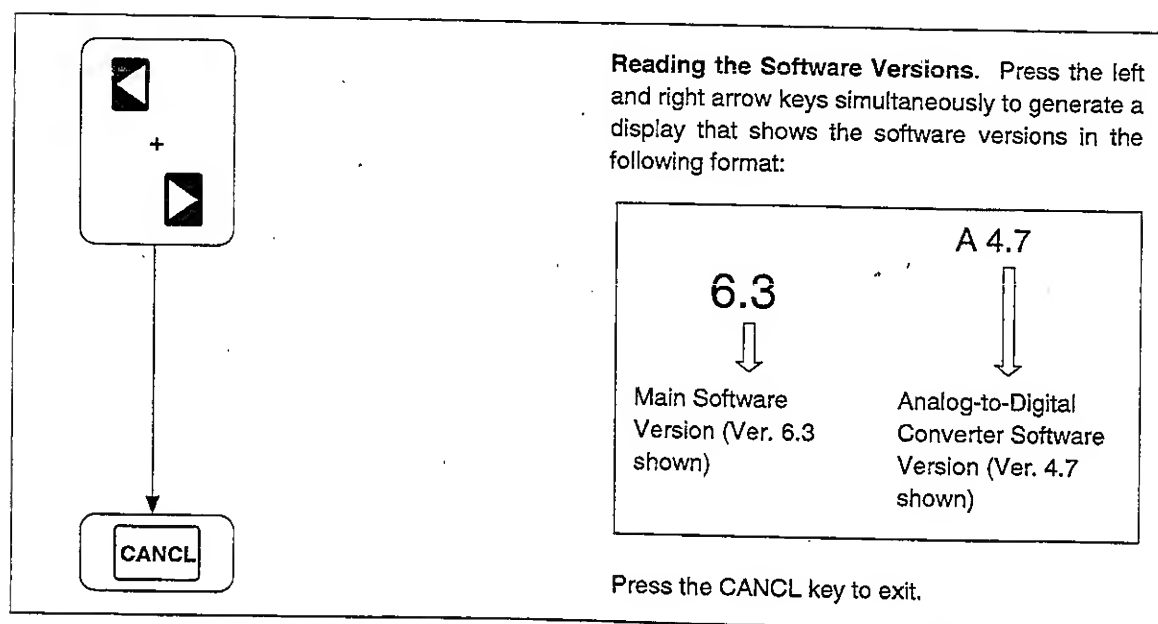

Figure 2-22. Reading Instrument Software Versions
- Reading Instrument Software Versions (Figure 2-22)
Perform the procedure in Figure 2-22 to view the version of the internal software that is controlling the instrument's operation. Two software versions are identified with this procedure: the main software that operates all instrument functions, and the analog-to-digital software that operates the instrument analog-to-digital converter.